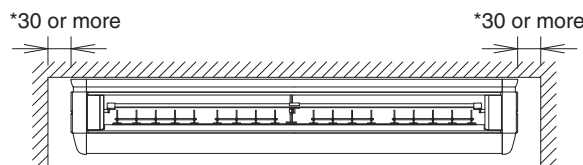
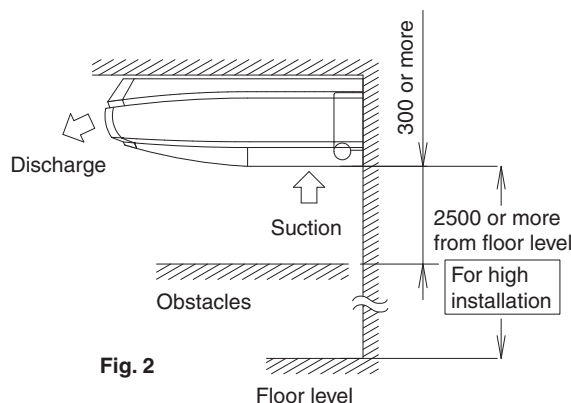

Fig. 1
Fig. 2
(1) Select the installation location that meets the following conditions and get approval of the customer.
- Where a space sufficient for installation and service can be ensured. (Refer to Fig. 1 and Fig. 2)